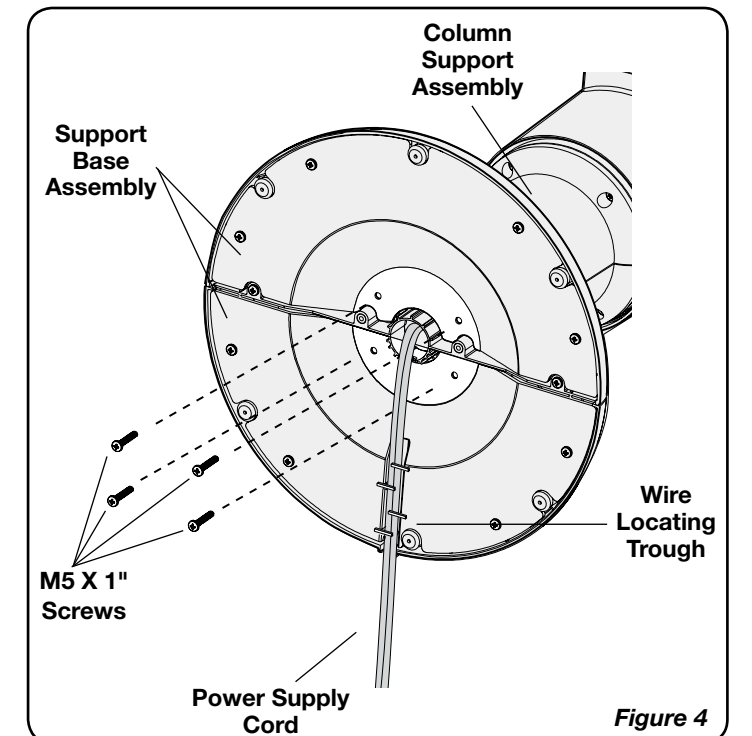

Figure 4
6. Align the Support Base Assembly with the Column Support Assembly, noting that the cord channel on the bottom of the support base should be toward the back of the Fan. Assemble the Support Base Assembly to the Column Support Assembly with (4) 1" Long M5 Screws. Gently pull any excess slack of the Power Supply Cord and place it in the Wire Locating Trough. (Figure 4)